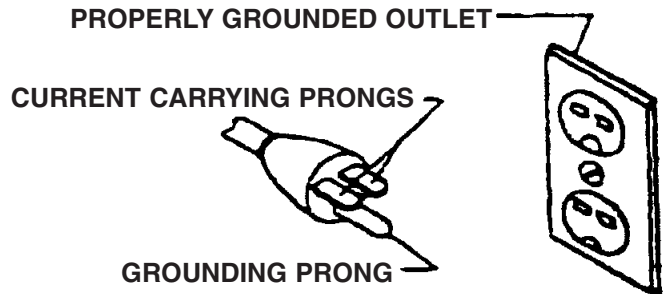
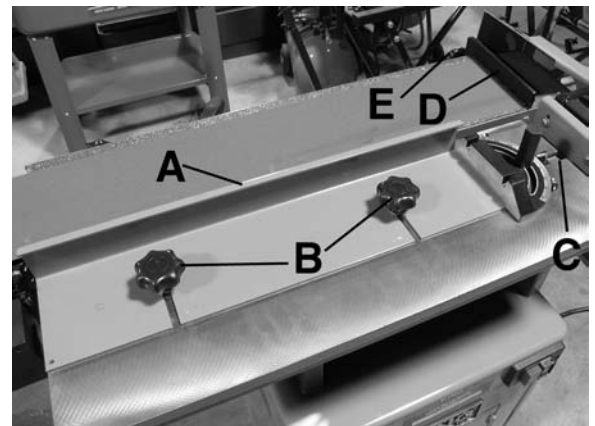
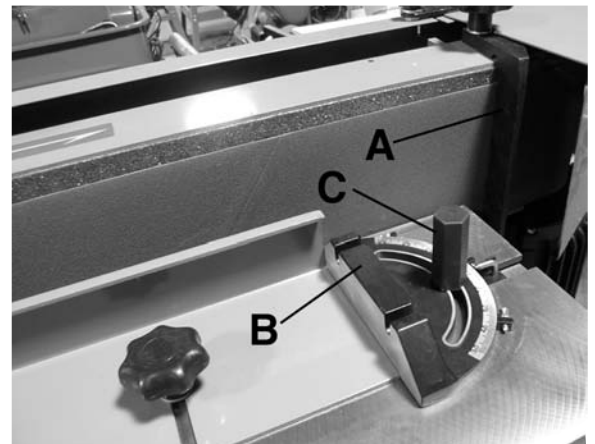

FIGURE 1
FIGURE 13
FIGURE 14
As received from the factory, your edge sander is ready to run for 220V operation. This edge sander is intended for use on a circuit that has an outlet and a plug which looks like the one illustrated in Fig.1.
- 1) With the belt frame locked in the horizontal position, the adjustable fence (A-Fig.13) may be used. The fence can be secured in place by screwing two lock knobs (B-Fig.13) into the guide blocks found in the miter slot (C-Fig.13).
- 2) The backstop (D-Fig.13) can also be used, place the backstop pin in the positioning hole and secure it in place with the workstop lock knob (E-Fig.1).
- 1) With the belt frame locked in the vertical position, the backstop (A-Fig.13) and/or the miter gauge (B-Fig.14) may be used.
- 2) To set a miter gauge angle, loosen the lock handle (C-Fig.14), pivot the miter gauge body to the desired angle and retighten the lock handle. If you need to do precise 90° work use a square between the table and belt frame. Adjust for square.
- 3) The fence (A-Fig.13) can also be positioned for tapered sanding operations by setting the fence on an angle. Adjust the table so the fence is at a good height.